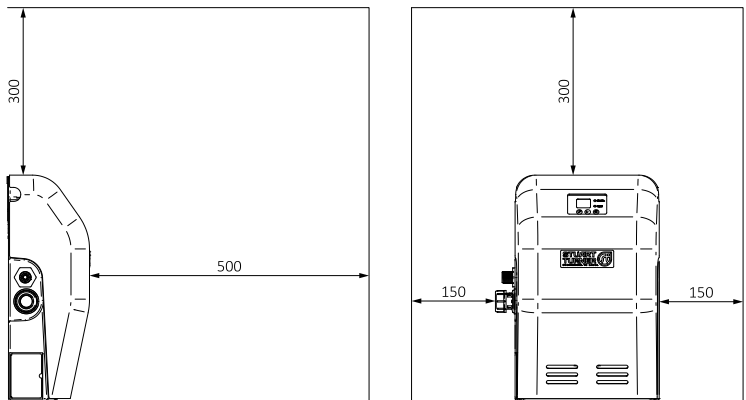

Fig. 2
- 4.12 **Access and minimum clearance requirements:** For emergencies and maintenance the CORE Mini must be easily accessible and have the minimum clearance around it as laid out in Fig. 2. Additional access to the front of the unit will be required to operate the keypad and view the display.